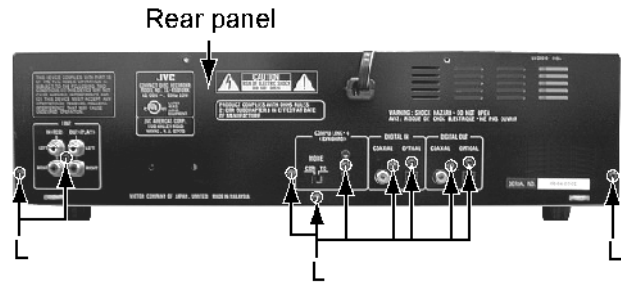

Fig.12
2.1.6 Removing the rear panel (see Fig.12,13)